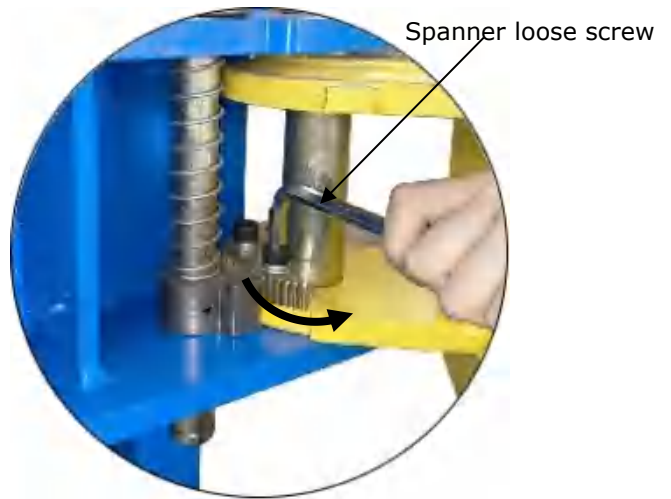

Fig. 40
2. Lowering the carriages down to the lowest position, then use the 8# socket head wrench to loosen the socket bolt (**See Fig. 40**)